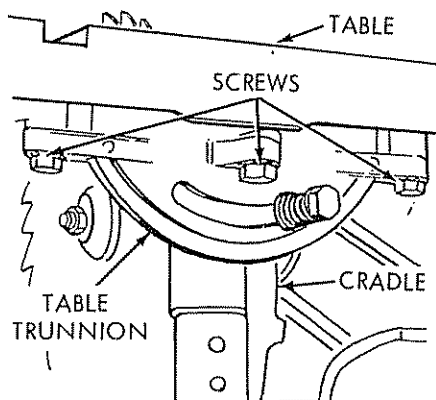

Figure 18
- (1) Locate the three screws which secure the front table trunnion and two screws that secure the rear trunnion to the saw table. (See figure 18.) Loosen these screws just enough to permit the trunnion to "slip" when tapped with a mallet or plastic-tipped hammer. (If loosened completely, it would be almost impossible to achieve an accurate adjustment.)
- (2) Shift the two trunnions by tapping them lightly until the two measurements described in the preceding instructions are equal. Tighten the trun-